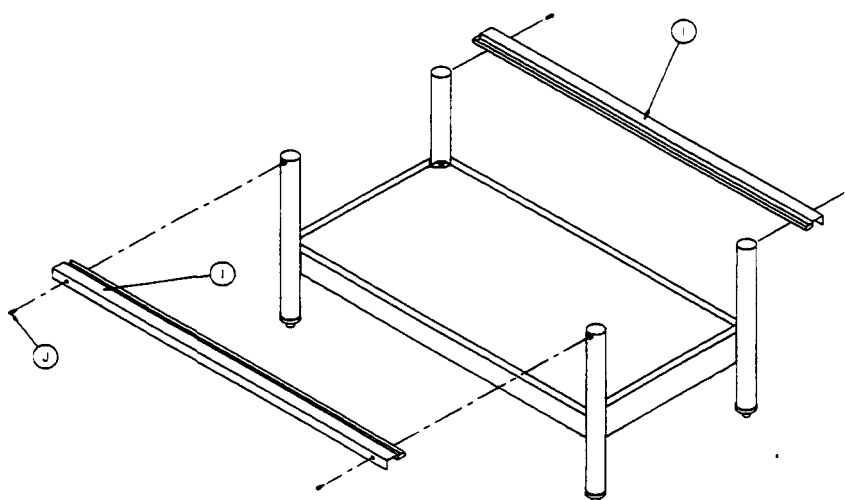

Figure 4
- 8. Position top front and rear support item "I" over leg assemblies as shown in Figure 4. Secure into legs assemblies with $\frac{1}{4}$ - 20 x 5/8 hex head bolts Item "J."